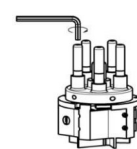

Fig.15: Loosening the contact pin
1. Use a size 8 allen key to loosen and remove the contact pin from its holder (Fig.15).